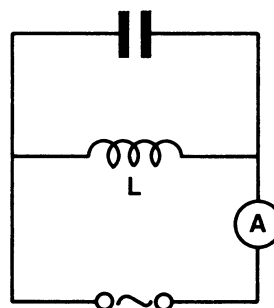

FIG. 3.50
- C. There is in Fig. 3.50 no induced voltage across the inductor.
- E. The inductor in Fig. 3.50 carries no current.